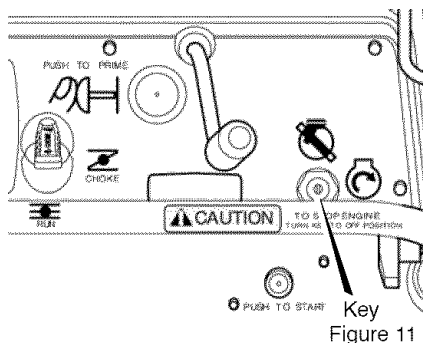
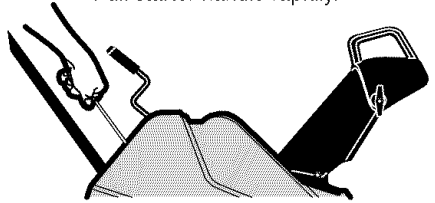

Figure 11
Figure 12
5. (**Electric Start**) Turn the **key** to the **START** position (see Figure 11). To prolong the life of the starter, do not crank for more than 5 seconds at a time. Wait one minute between starts to allow the starter motor to cool.
6. **(Recoil Start)** Turn the **key** to the ON position (see Figure 11). Slowly pull the **recoil starter handle** until resistance is felt and then pull rapidly to start the engine (see Figure 12). Do not allow the **recoil starter handle** to snap back. Slowly return the **recoil starter handle**.